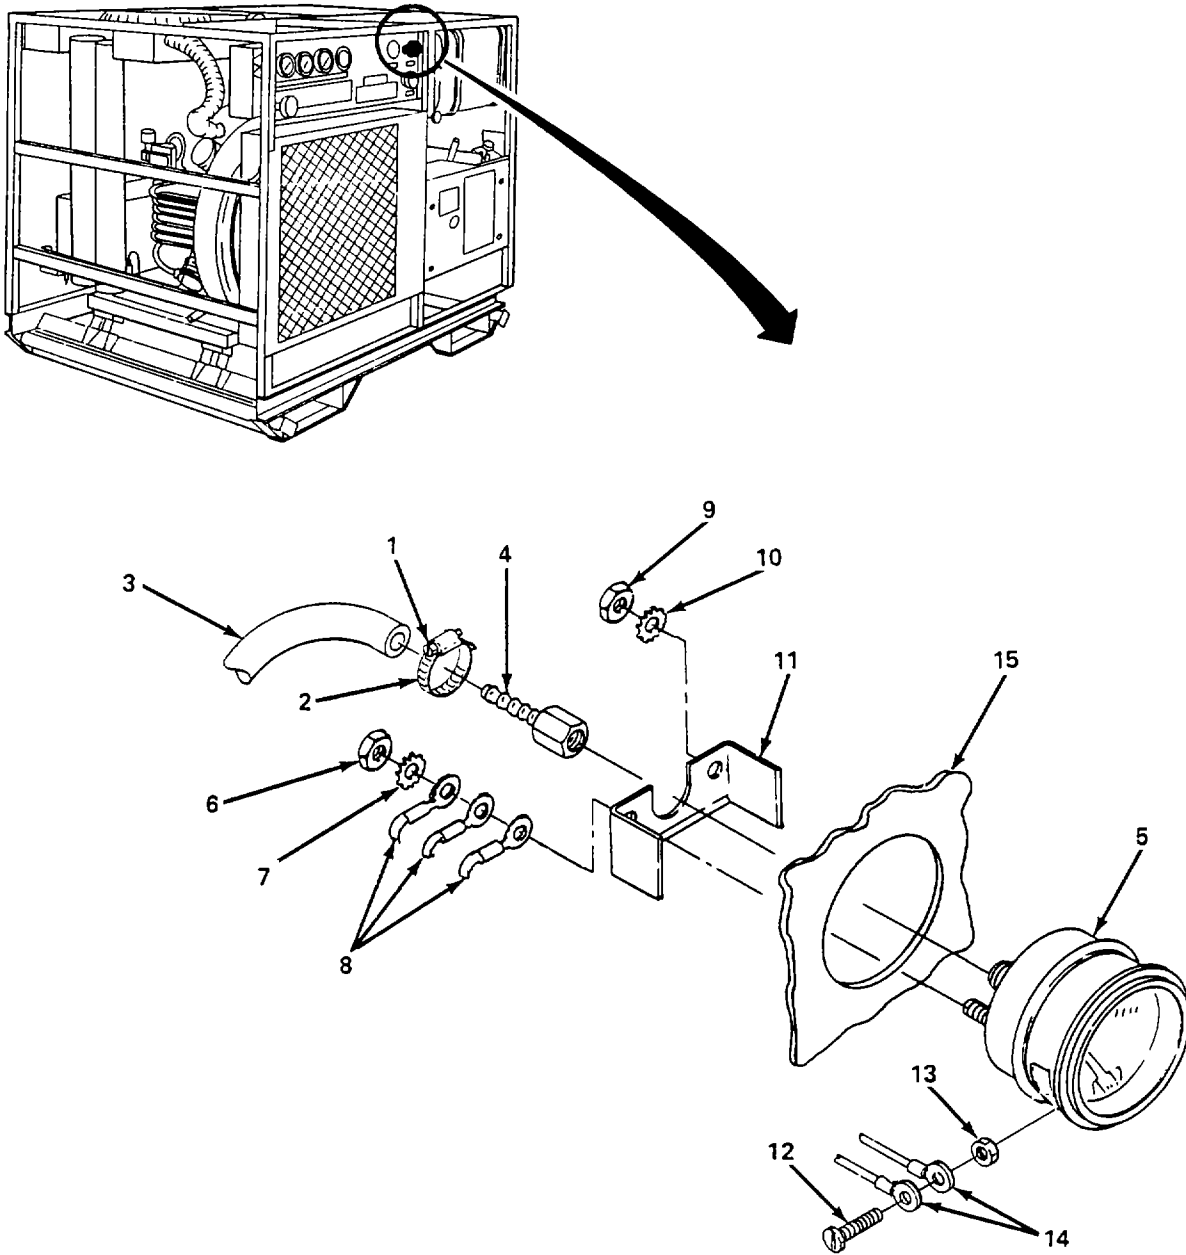

Figure 4-10. Engine Oil Pressure Gage, Replace.
- (1) Engine oil pressure gage. (figure 4-10)
- (a) Loosen screw (1) on clamp (2) and remove hose (3).
- (b) Remove fitting (4) from oil pressure gage (5).
- (c) Remove nuts (6), washers (7), and tag and remove three wires (8).
- (d) Remove nut (9), washer (10), and bracket (11).
- (e) Remove screw (12) and nut (13) and tag and remove two wires (14).
- (f) Remove oil pressure gage (5) from control panel (15).
- (g) Install oil pressure gage (5), bracket (11), and secure with washer (10) and nut (9).
- (h) Install two wires (14) and secure with nut (13) and screw (12).
- (i) Install three wires (8), washer (7), and nut (6).
- (j) Install fitting (4) on oil pressure gage (5).